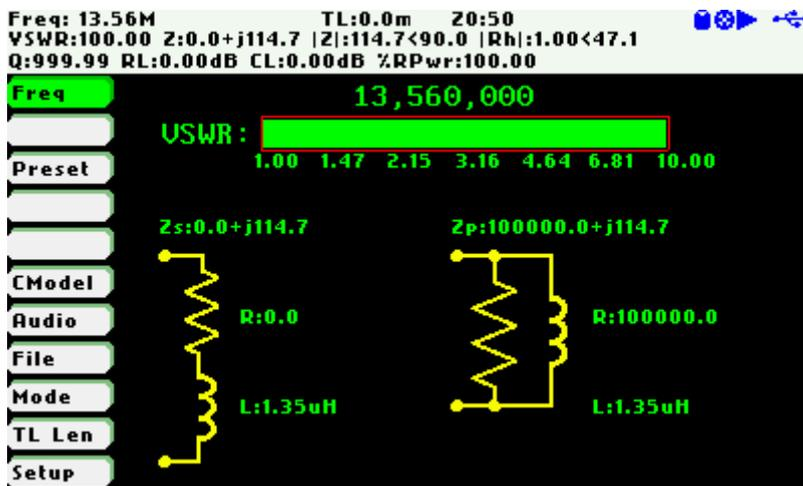

Figure 5, Single Frequency mode
- Step 4. Select «**CModel**» in the main menu (Figure 5)